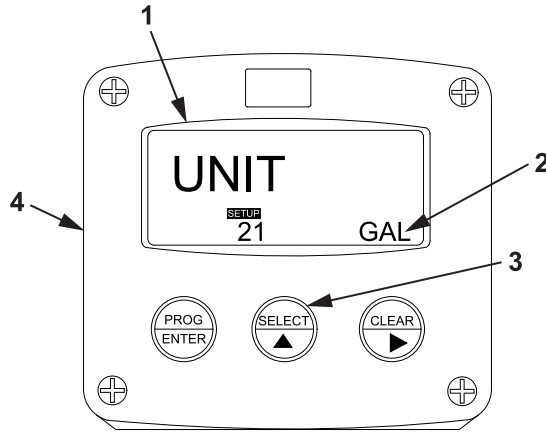

Figure 10. GAL Display.
- b. Verify that GAL (Figure 10, Item 2) appears on the display screen (Figure 10, Item 1). If GAL (Figure 10, Item 2) does not appear, perform the procedure to program tank volume meter monitor settings and select GAL (Figure 10, Item 2).
- c. Press the SELECT key (Figure 10, Item 3) on the tank volume meter monitor (Figure 10, Item 4).